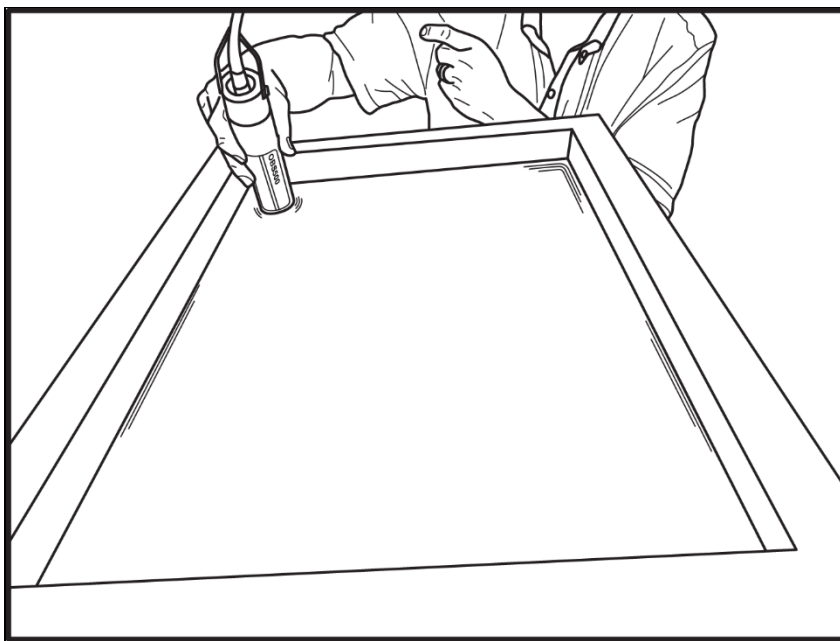

FIGURE 7-6. Position of OBS500 in clean tap water in big black tub
1. Swab sensor with an alcohol-soaked towel to sterilize it. Position the OBS sensor in a large, black tub of fresh tap water as shown in FIGURE 7-6 and record a 10-second average of the low-range output. Record the average output on the calibration log sheet.
1. Record and log the clean-water signal as in Step 1, Section 7.5.1, *Turbidity* (p. 22); see FIGURE 7-6. Use the same value, such as, sidescatter, backscatter, or ratio throughout the calibration.